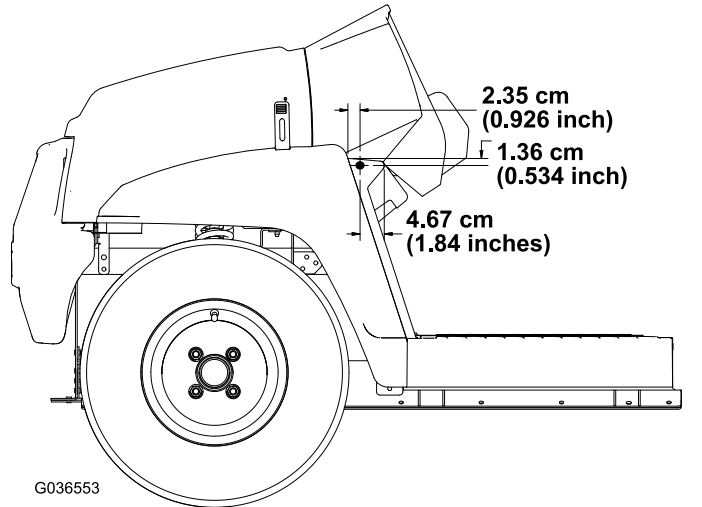

Figure 30
- Using the dimensions shown in Figure 30, drill 1 hole (5/16 inch) into the outside of the footboard on the left and right sides of the machine.